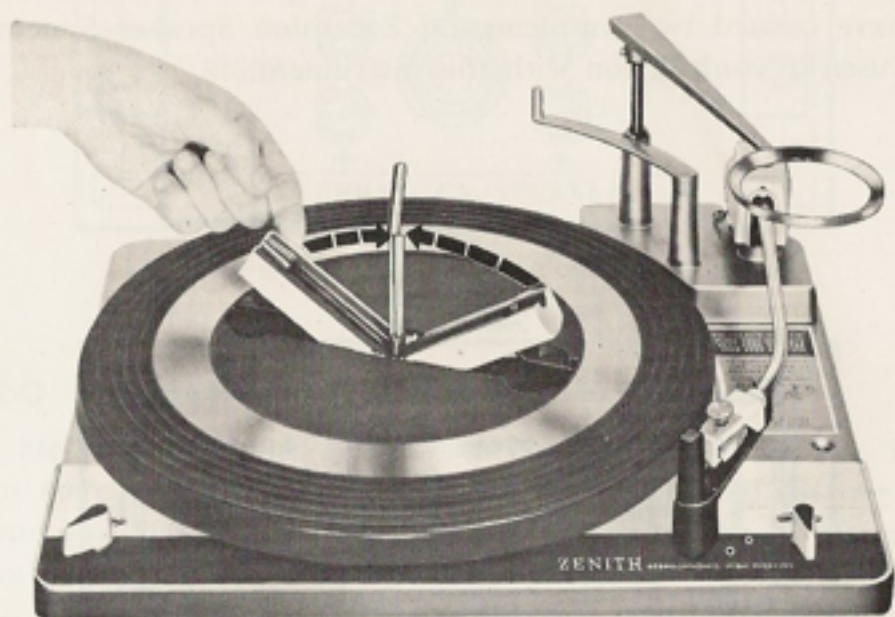

Figure 8—Placing 45 R.P.M. Spindle on Changer
1. Lift up on the 45 R.P.M. spindle as illustrated in Figure 8 and bring the two spindle halves together.